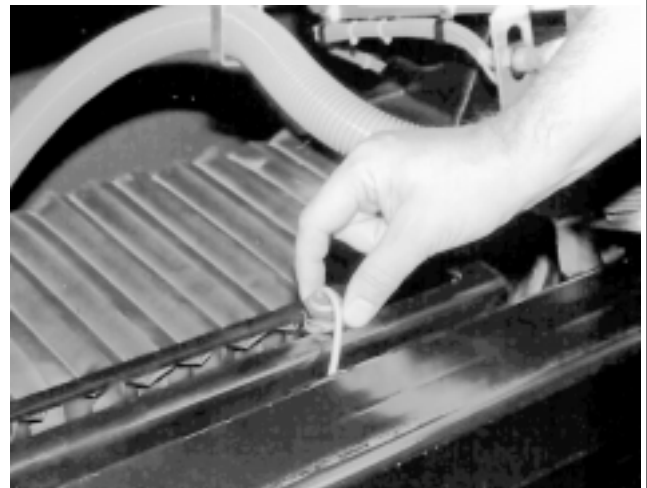
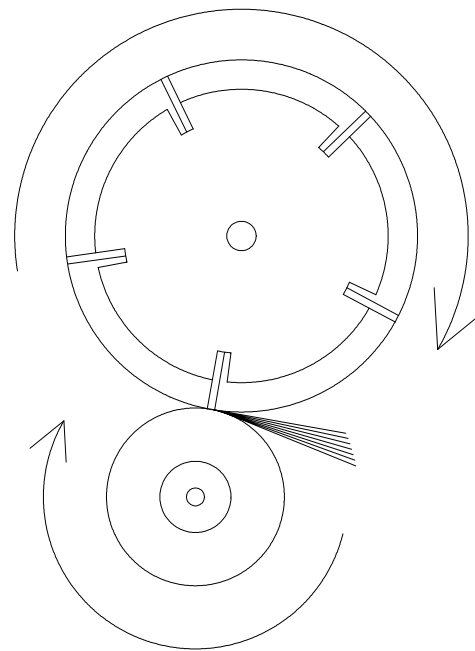
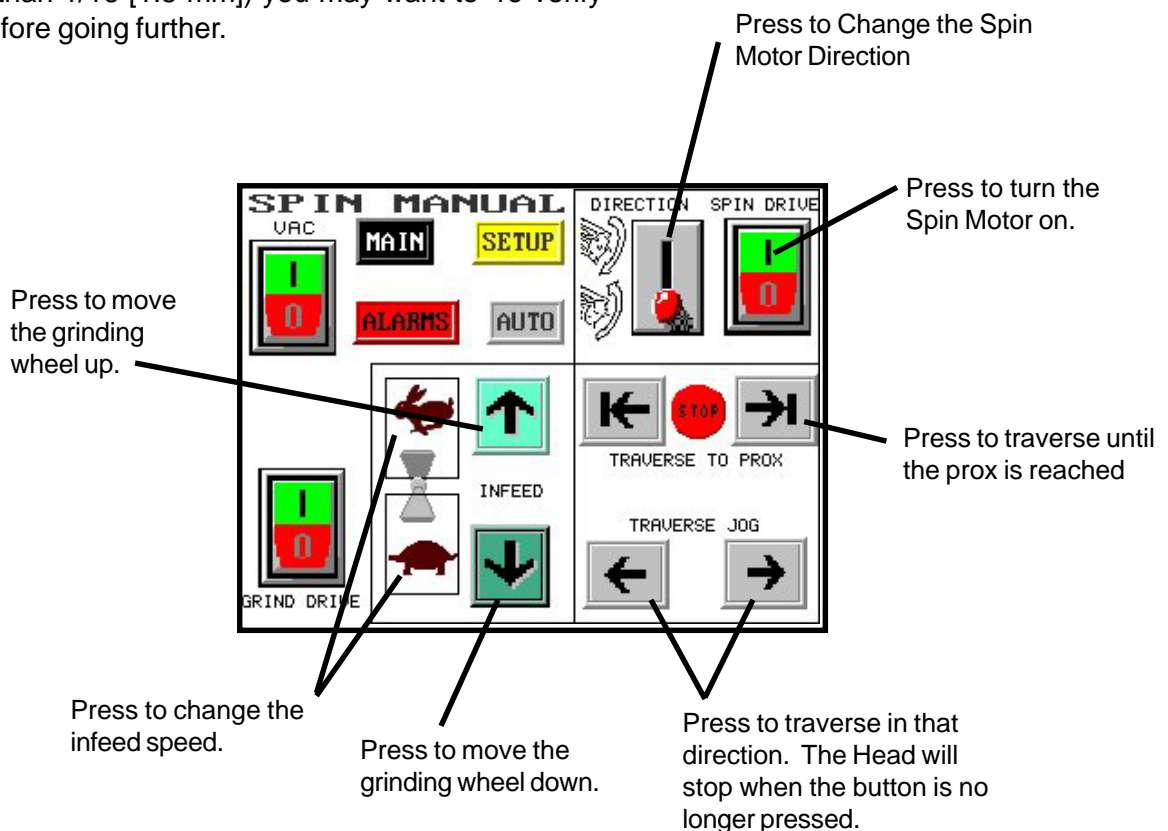

FIG. 29
FIG. 30
FIG. 31
Move the Traverse Travel Limit switches out to allow the grinding wheel to reach the end of the reel. See FIG. 29. Depress the Traverse Jog button on the Spin Manual Touch Screen, to move the grinding wheel until it has cleared the end of the reel (if clearance to the frame allows) See FIG 31. When the grinding wheel is in position, move the Traverse Travel Limit switches in until the light on the proximity switch lights. Move the grinding wheel in a couple of inches and then back out to verify the switch properly stops grinding wheel. This applies to both right and left prox switches.
Turn on the Grinding Wheel Motor and the Spin Drive Motor on the Spin Manual Touch Screen. Set the Spin Speed per the instructions on Page 35. Make sure spin rotation is the same as the grinding wheel - clockwise (CW) looking from right end. See FIG. 30. Go to the Spin Manual Touch Screen to change the spin motor direction. See FIG 31.
Manually traverse to **HOME POSITION** (all the way to the right side until the right side proximity switch is lit) using the Spin Manual Touch Screen. See FIG. 31.